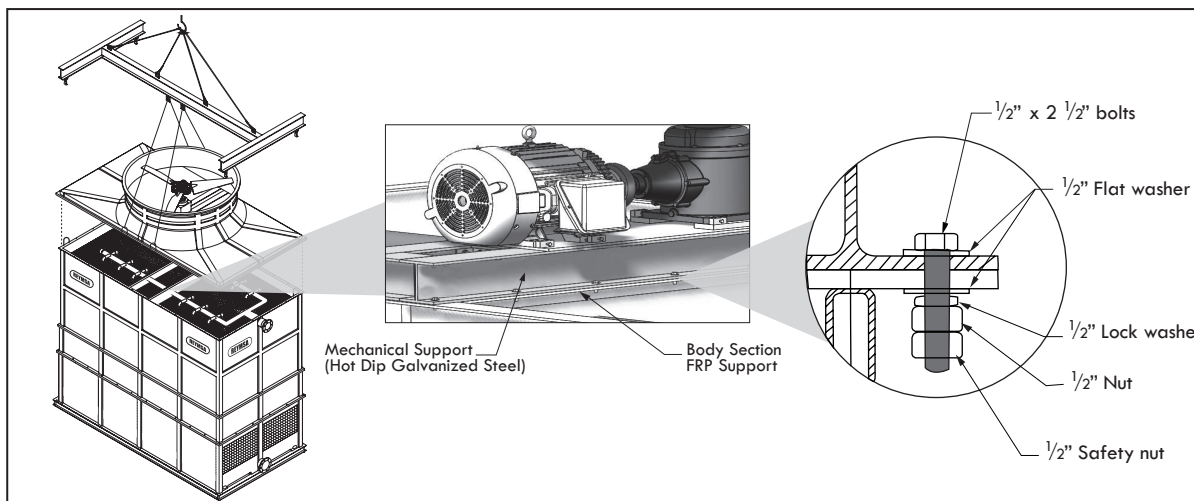

Figure A-80: Fan Deck assembly for an RTGM model.
- N. RTGM models have a section called "Fan Deck" which is at the top of the Tower (see Figure A-80). The Fan Deck with duct contains a gear drive fan and a motor mounted in a structural Hot Dip Galvanized Steel, and a corrosion resistant safety screen mesh.
- Q. After The Fan Deck has been set in place, proceed to bolt down the Mechanical Support (Hot Dip Galvanized Steel) to the Body Section FRP Support inside of the Fan Deck Section (see figure A-80).